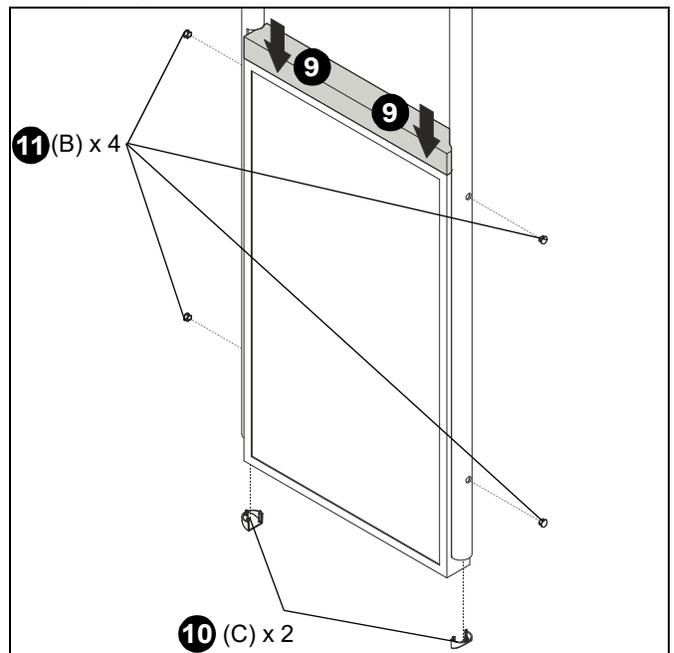

Figure 4
9. Install top cover onto display. (See Figure 4)
10. Snap two pipe caps (C) into side covers. (See Figure 4)
11. Snap four bolt hole caps (B) into holes on side covers. (See Figure 4)